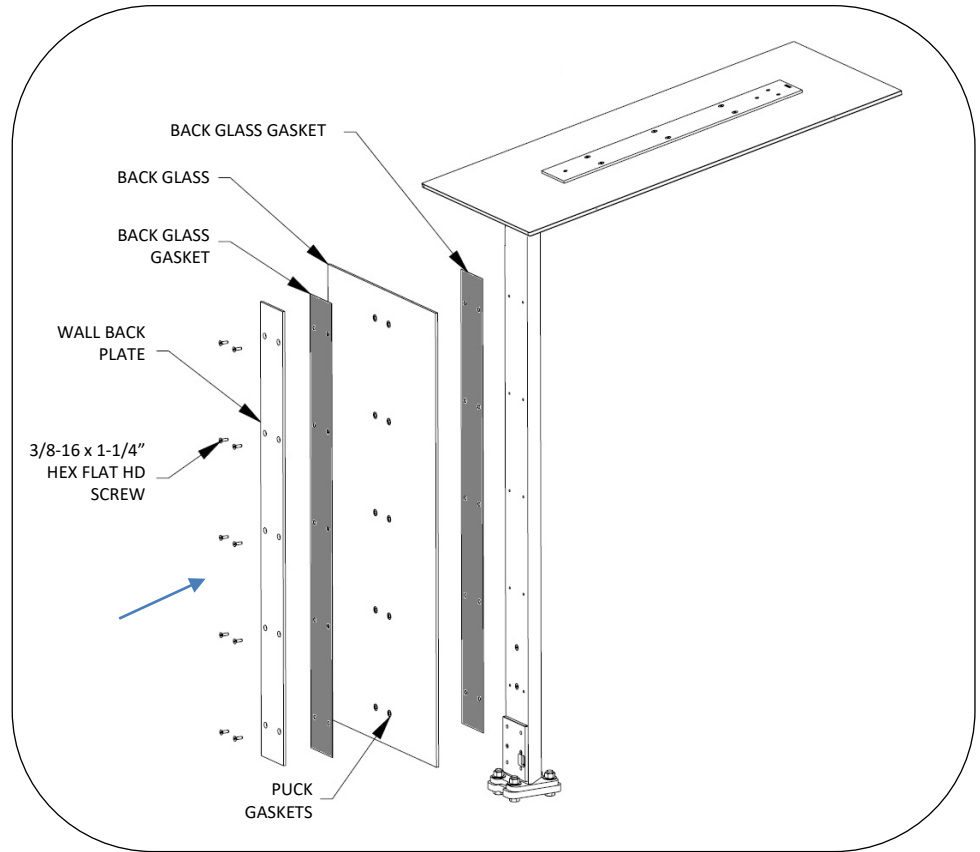

FIG. 12 – INSTALL BACK GLASS
15. Attach back glass gasket to main post, see Fig. 12.
16. Install glass puck gaskets in holes in back glass, see Fig. 12.
17. Attach back glass, back glass gasket, wall back plate and lower back plate, see Fig. 12.